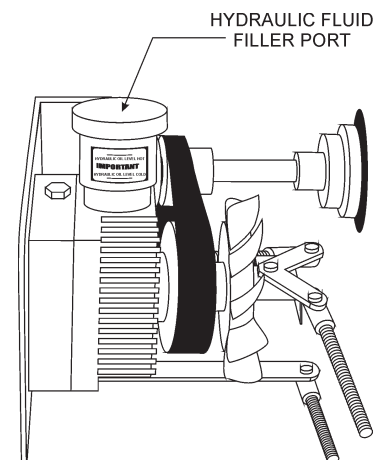

Figure 14. Hydraulic Reservoir Filler Port
1. Visually inspect the hydraulic fluid in the hydraulic reservoir (Figure 14). If the hydraulic fluid is low, fill the reservoir with Mobil 300, GM Dextron B or Ford MZC-41A type hydraulic transmission fluid to the correct level. The correct hydraulic fluid level will be indicated on the reservoir.